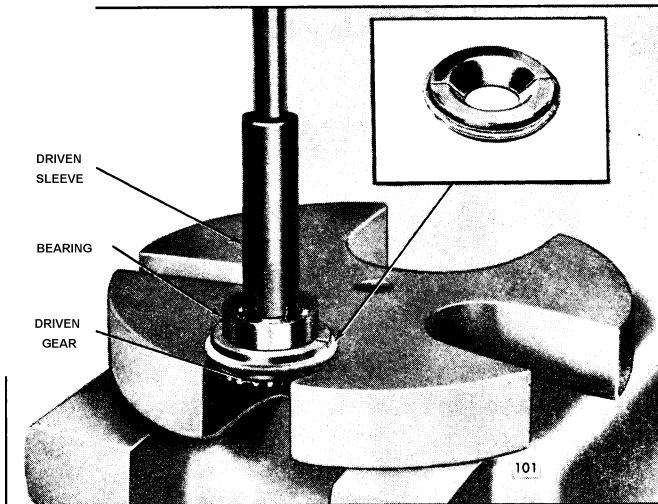

Fig. 4 - Removing Sleeve and Bearing from Driven Gear with Tool J 4685
4. Support the gear and bearing assembly on an arbor press. Place a brass rod inside of the sleeve and press the gear from the sleeve and bearing (Fig. 4).